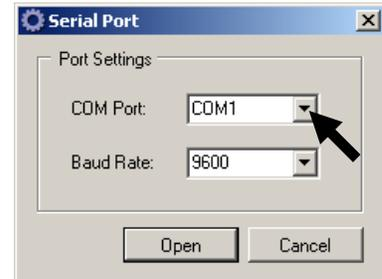

Figure A-1: Select COM port.
3. Select the COM port being used with the VR3-UWM from the pull-down list in the Port Settings (see Figure A-1).